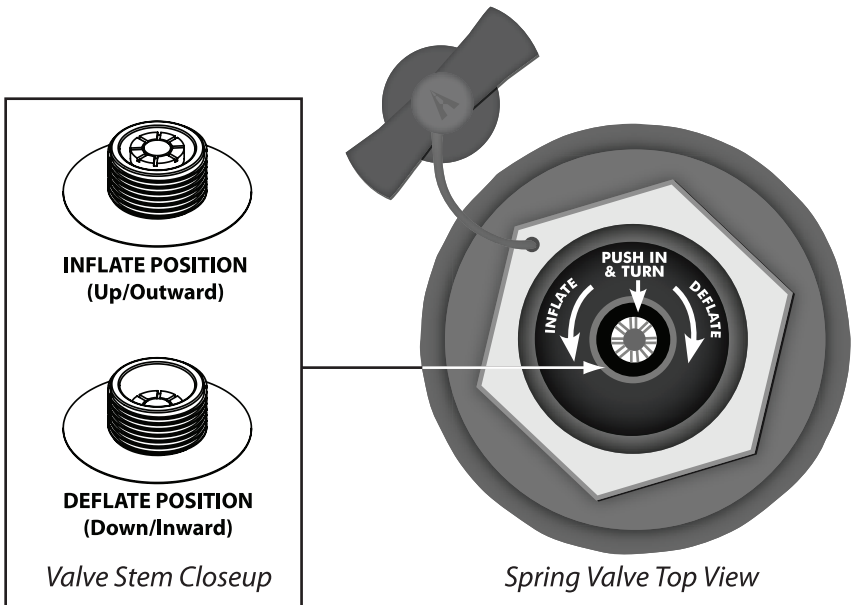

Figure 1. Inflate/Deflate Spring Valve
1. Starting with Chamber 1, check to be sure that the valve plunger is UP or in the INFLATE position (*See Figure 1 on previous page*). Inflate until the kayak begins to lift off of the ground and take shape and appears to be halfway inflated.
2. Move to Chamber 2 on inside of kayak. Check to be sure that the valve plunger is UP or in the INFLATE position (*See Figure 1*) and inflate until firm to touch (2.0 psi **ONLY**).
2. Push stems inward and rotate to deflate position (*See Figure 1*).